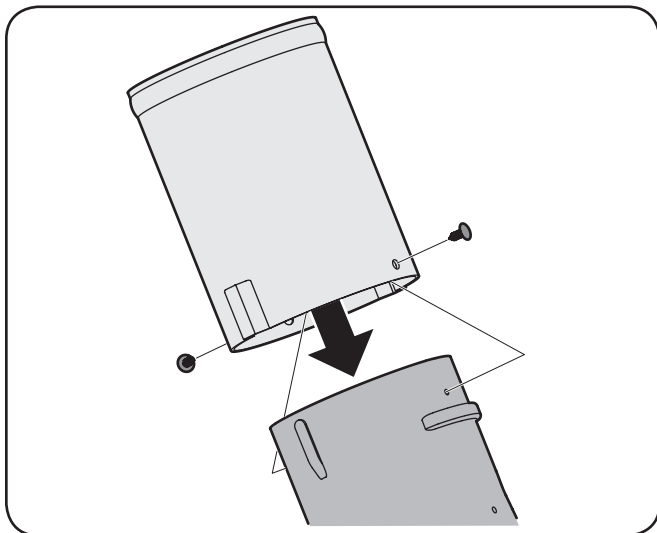

Figure 4-23
13. Install the chute adapter onto the chute elbow by lining up the tabs and sliding the adapter over the chute elbow, as in Figure 4-23. Secure the chute adapter by installing the two ratchet clips included in the hardware pack in the holes provided.